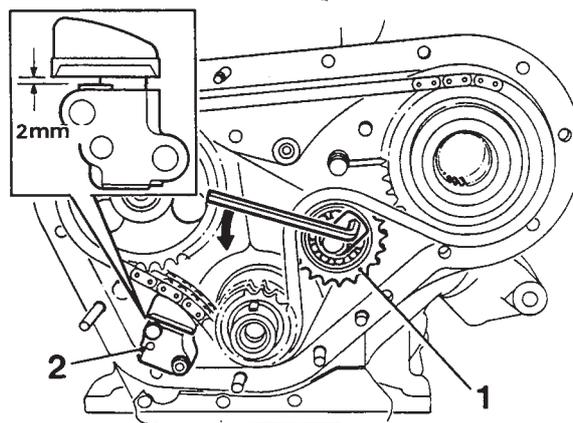

Fig.10 Tensioning chain
22. Adjust the idler sprocket by using an Allen key to turn it anti-clockwise until a 2 mm clearance exists between the tensioner slipper and the plunger (see fig.10).